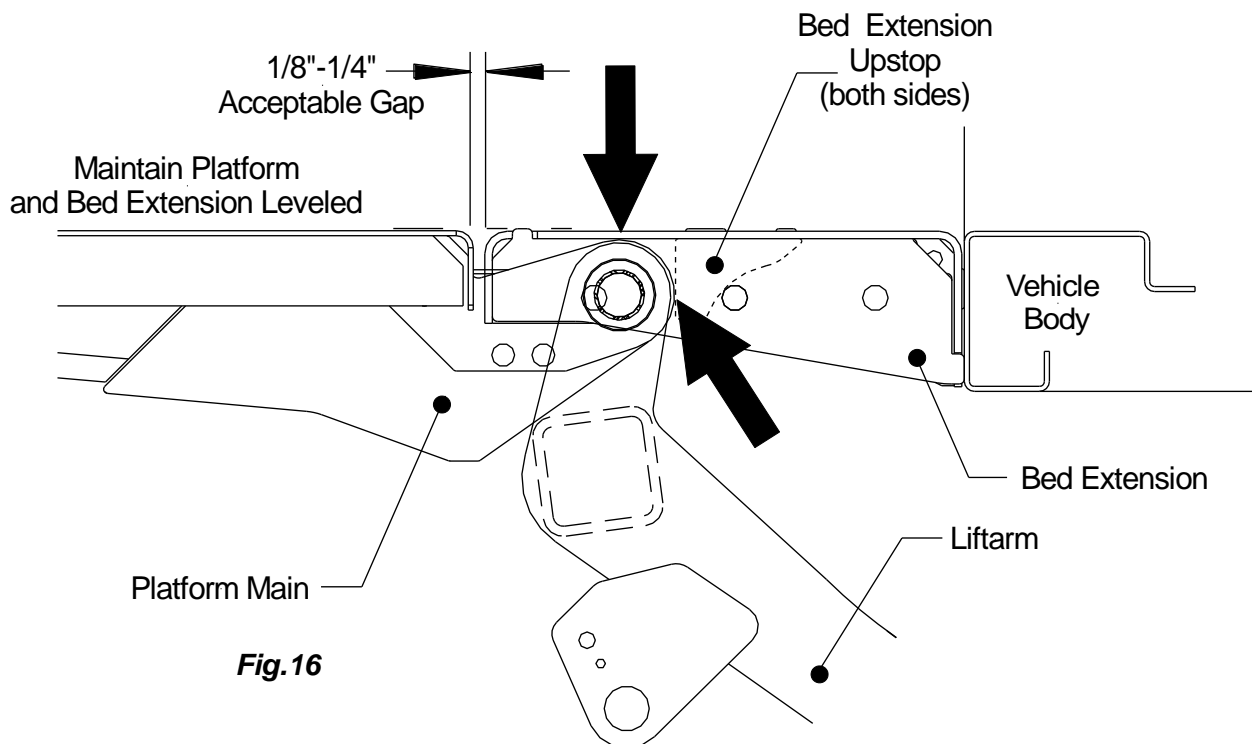

Fig.16
- 1a. Maneuver the liftgate under the vehicle and position both liftarms flush to both the bed extension upstops and the underside of the bed extension. Measure the gap between the bed extension and platform to confirm the gap is within the acceptable range, **Fig.16**.